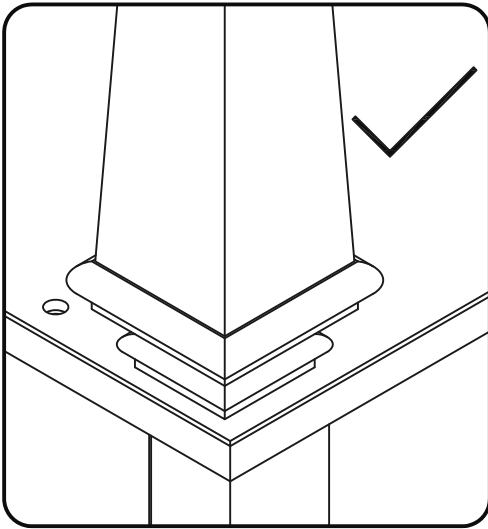

Figure 2
Attach Legs (J) to unit, orientating Legs (J) properly. (See Figures 2 and 3)